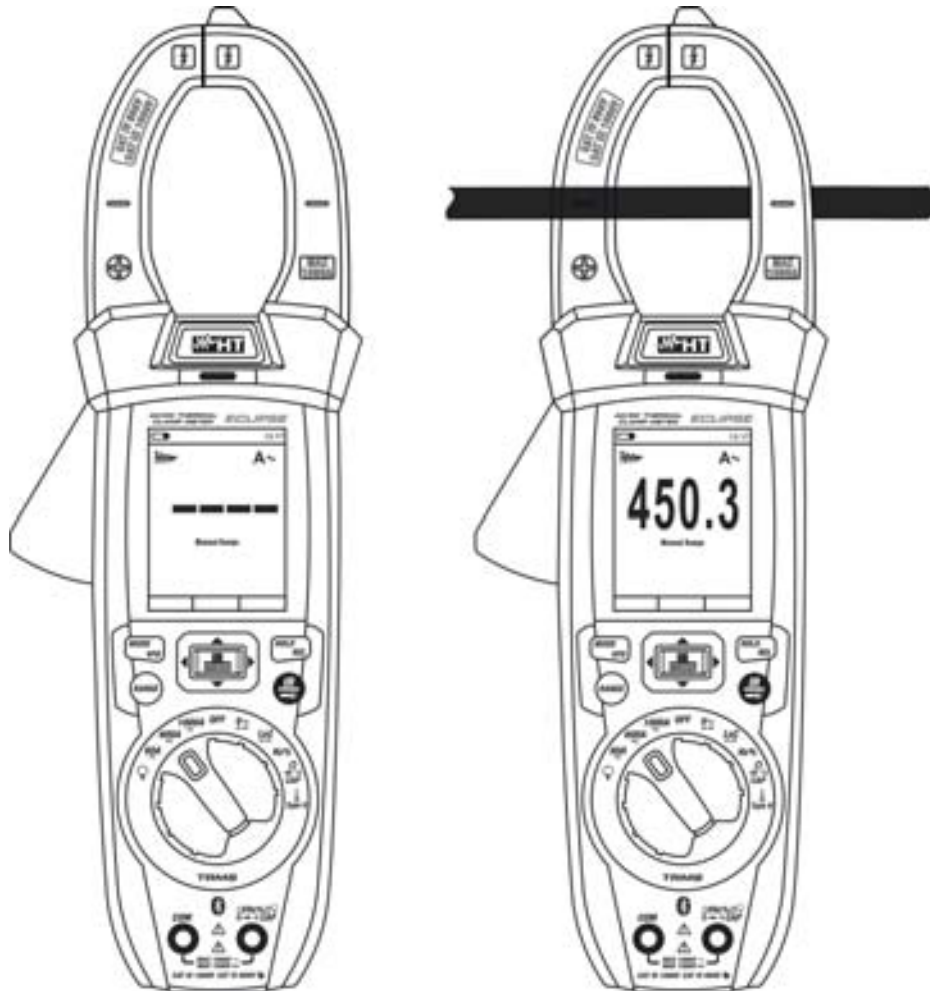

Fig. 33: Use of the instrument for AC Inrush current measurement
3. Long press the key **INRUSH** to activate the "INRUSH" function. The "**INRUSH**" and " - - - " symbols appears at display (see Fig. 33 – left side)
4. Put the conductor to be tested inside to the center of clamp jaw (see Fig. 33 – right side) in order to perform accurated measurements. Consider the notches on jaws as reference (see Fig. 3)